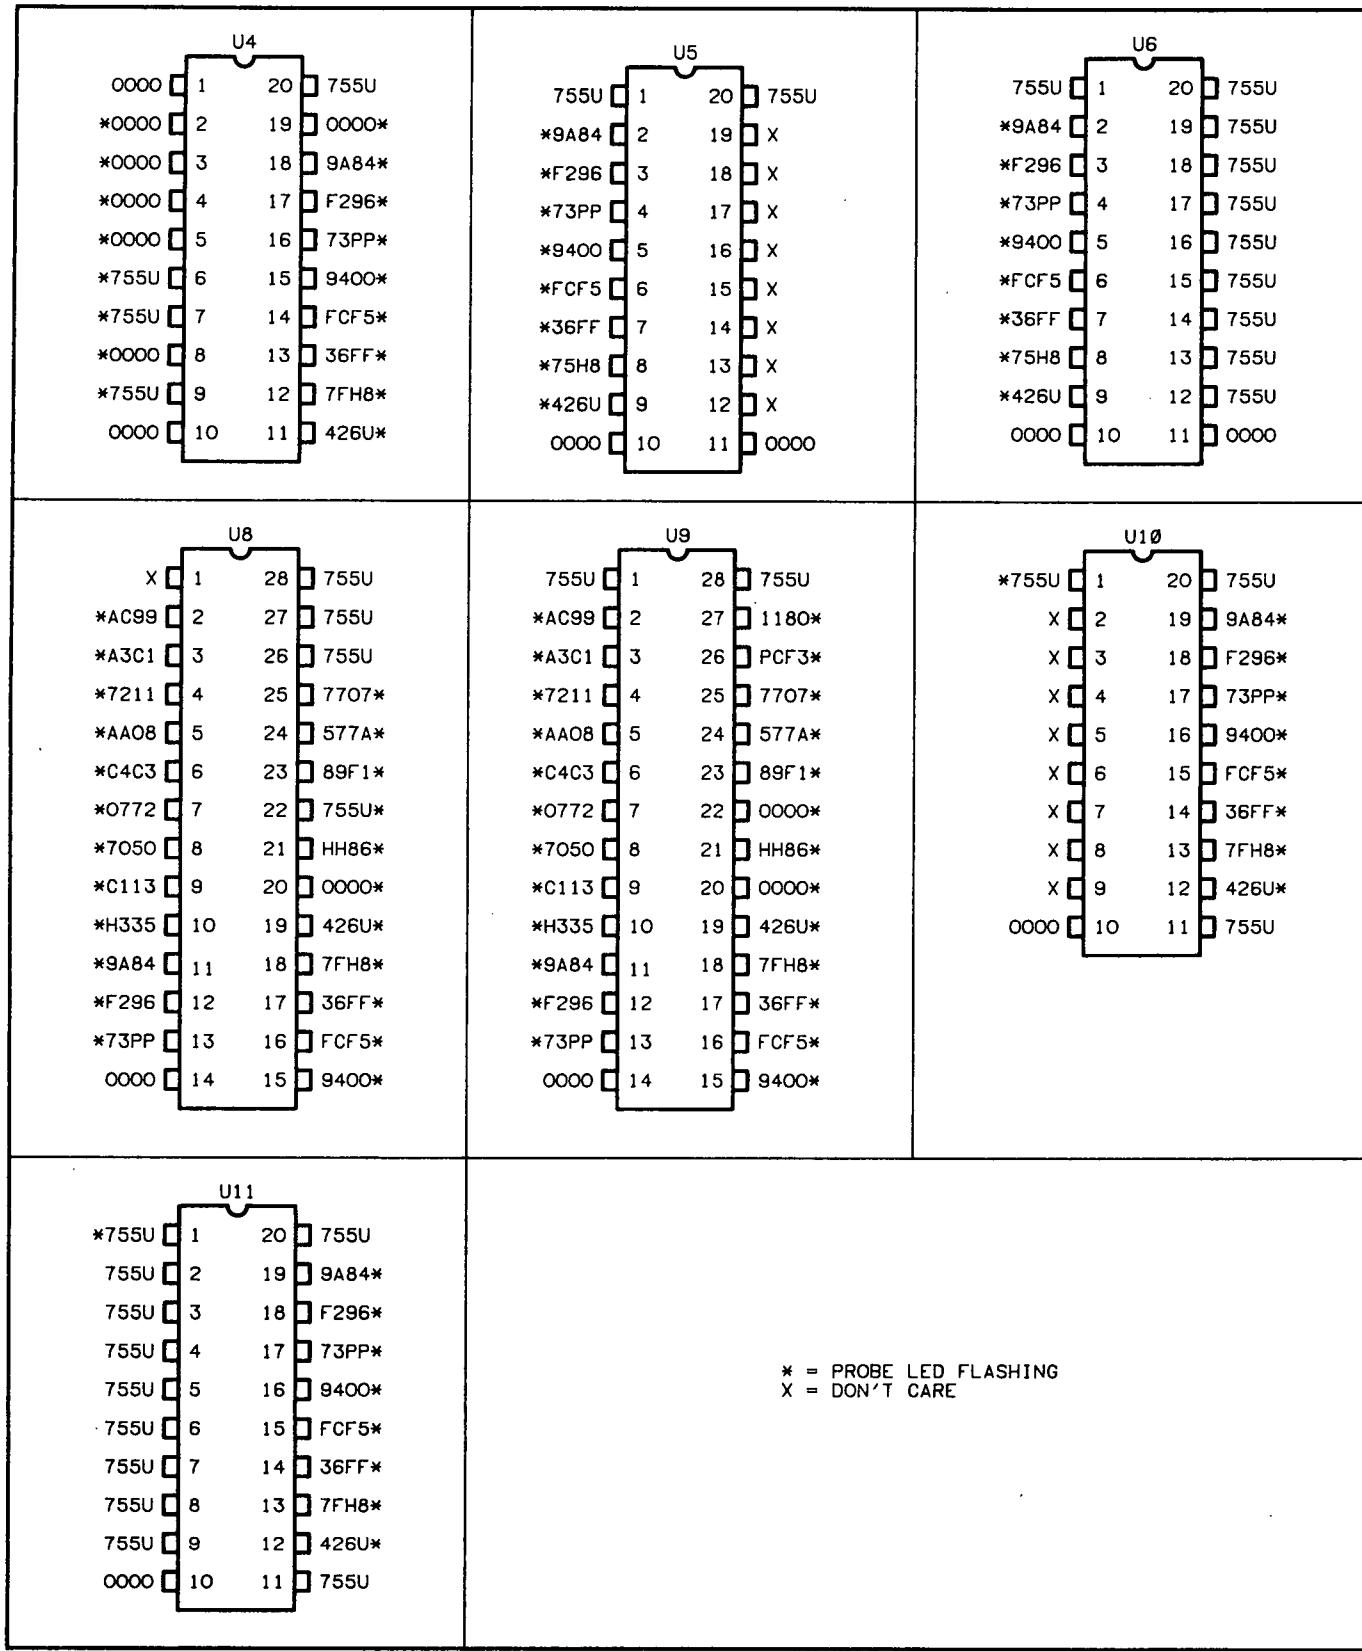

Figure 8-17. HP 5334B, Option 700 Signatures for Setup 3
d. Power up the Counter and verify the signatures shown in *Figure 8-17*.